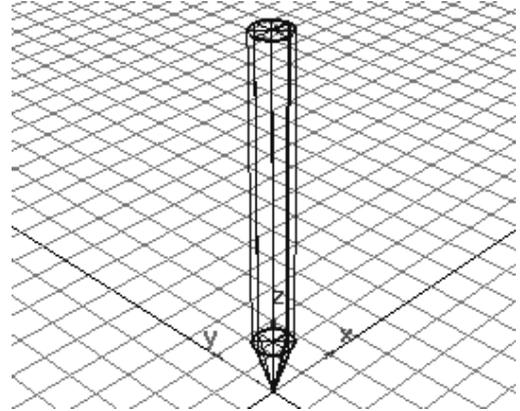

Figure 2-115 Model after rotating the tip
4. Enter **180, 0, 0** in the promptline and press ENTER; the tip is rotated about the X-axis, as shown in Figure 2-115.